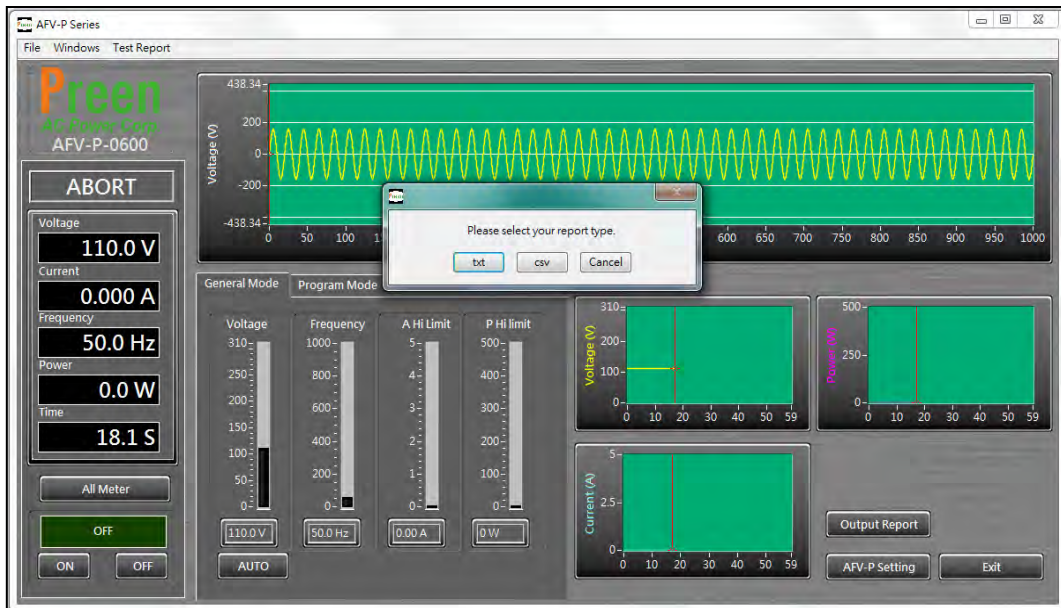

Figure 7.5 Select the desired file form of the product output report
- 13) Click to download the product output report in the form of txt file or csv file (see Figure 7.5).